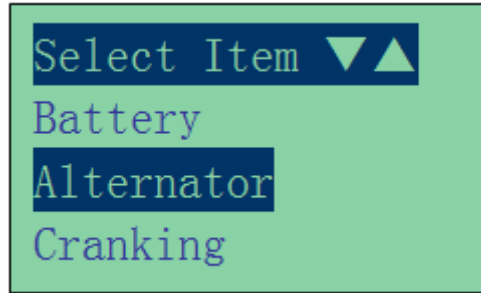

Figure 21
3. Pressing  key once will scroll down to the 'Alternator' (Fig.21)